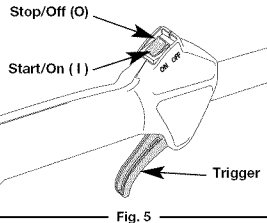

Fig. 5
NOTE: There is no need to turn the unit on. The On/Off Stop Control is in the ON (1) position at all times (Fig. 5).
- Press the On/Off Control switch in the OFF (0) position and hold until the engine comes to a complete stop (Fig. 5).